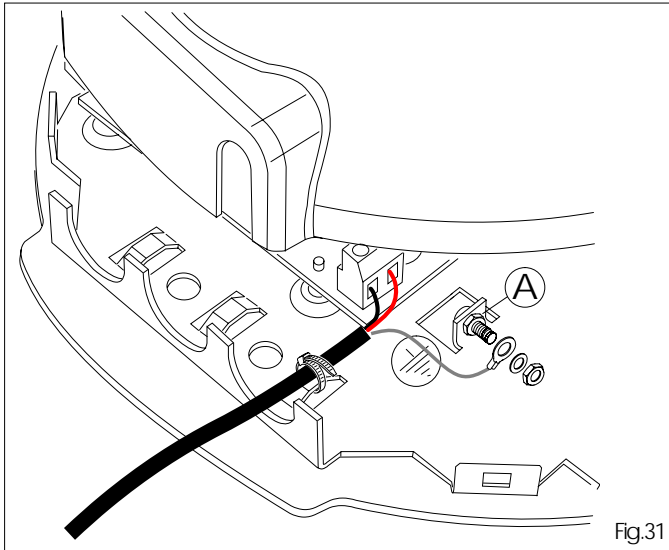

Fig.31
Connect the system's earth wire to the dedicated terminal (see ID sticker – fig.31 ref.A).
9.1 Connect the power cable, as shown in figure 31, securing it with a clamp in the indicated area.
9.2 Fit the screw in the appropriate seat and tighten with washer and nut (fig. 31 ref. A).